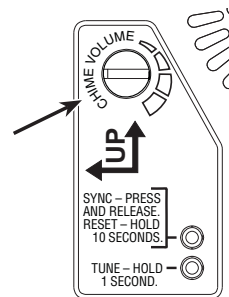

Figure 10
11. Turn volume control knob on chime base to adjust volume (see Figure 10).